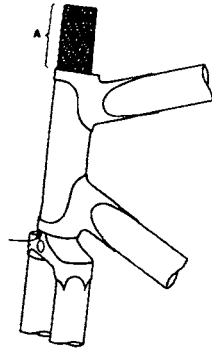

Fig. 13
Step 4 - Determine dimension "A" for your steerer tube by inserting the fork into the head tube and measuring the amount of protrusion above the top of the head tube (figure 13). Be sure to hold the fork tightly against the bottom of the head tube with the crown race seat against the head tube face.